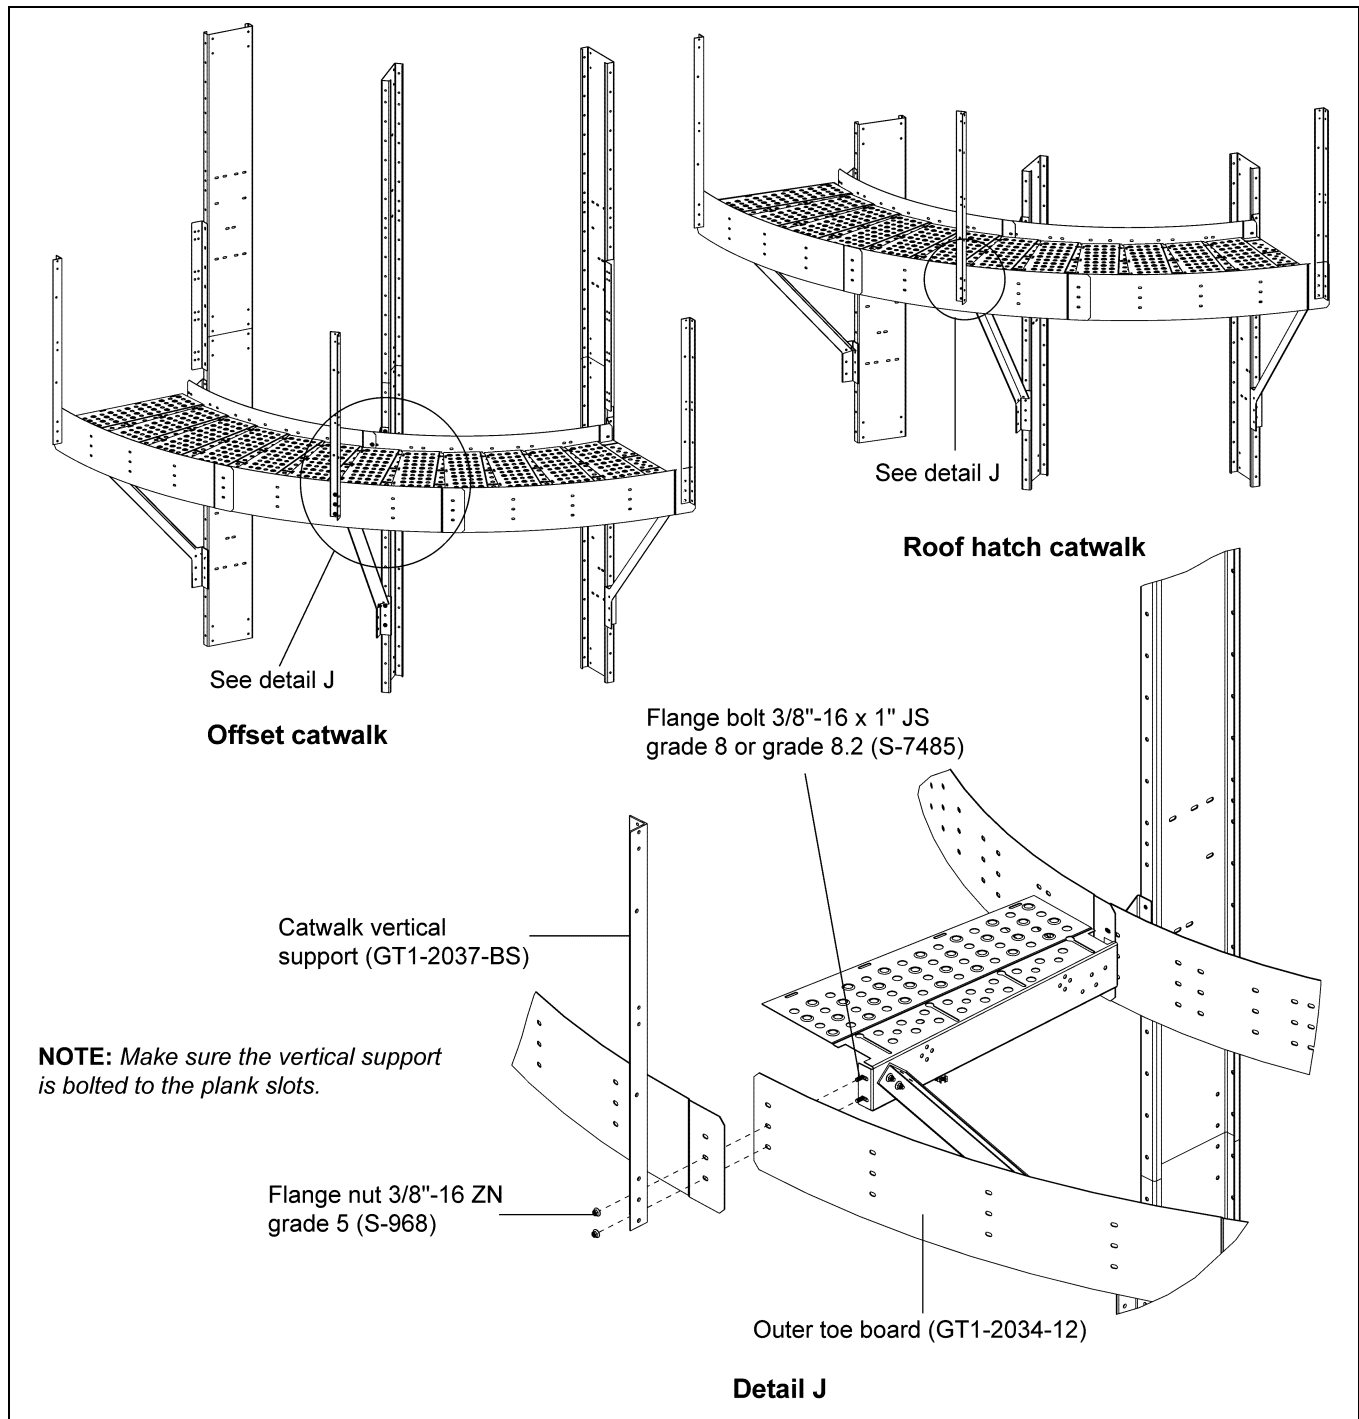

Figure 6T Outer Toe Board (GT1-2034-12) and Vertical Support (GT1-2037-BS)
1. Install all the outer toe boards (GT1-2034-12) to the planks (GT3-1669). (See Figure 6T.)
2. When installing the outer toe board with planks, install the catwalk vertical support (GT1-2037-BS) simultaneously at proper locations using 3/8"-16 x 1" JS grade 8 or grade 8.2 bolts (S-7485) and 3/8"-16 ZN grade 5 nuts (S-968). (See Figure 6T.)